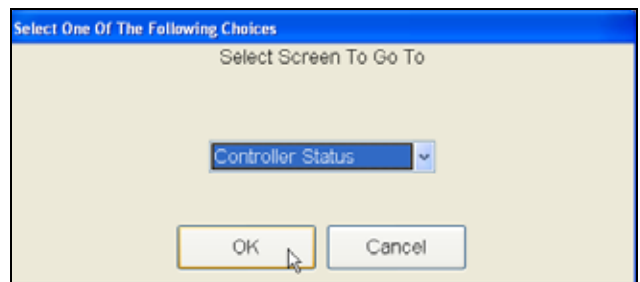

Figure 7.4.5
6. Click on the **DOWN** arrow to view the different screen selections (Figure 7.4.5).